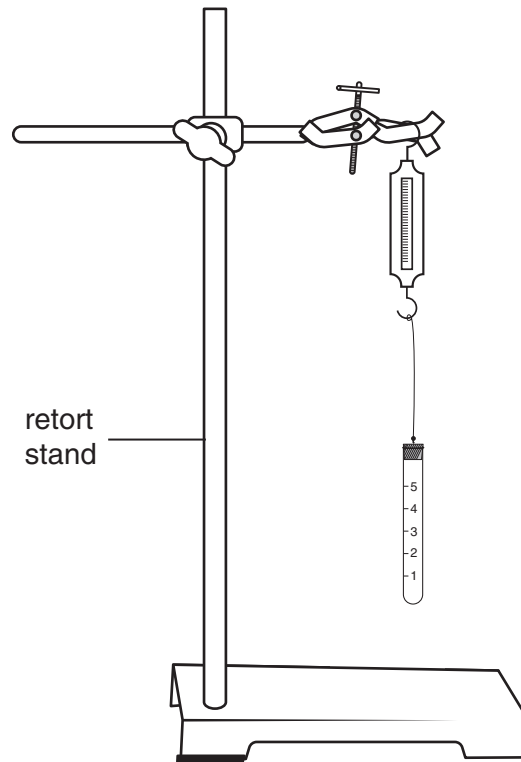

Fig. 2.2
- Suspend the spring balance on the retort stand as shown in Fig. 2.2.